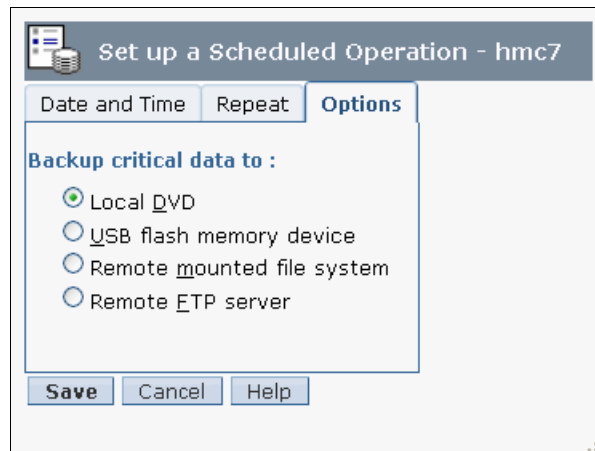

Figure 6-49 Scheduled HMC Data backup storage Options tab
5. On the Options tab, select the options that are available to back up media (Figure 6-49). The most common option is Local DVD media.